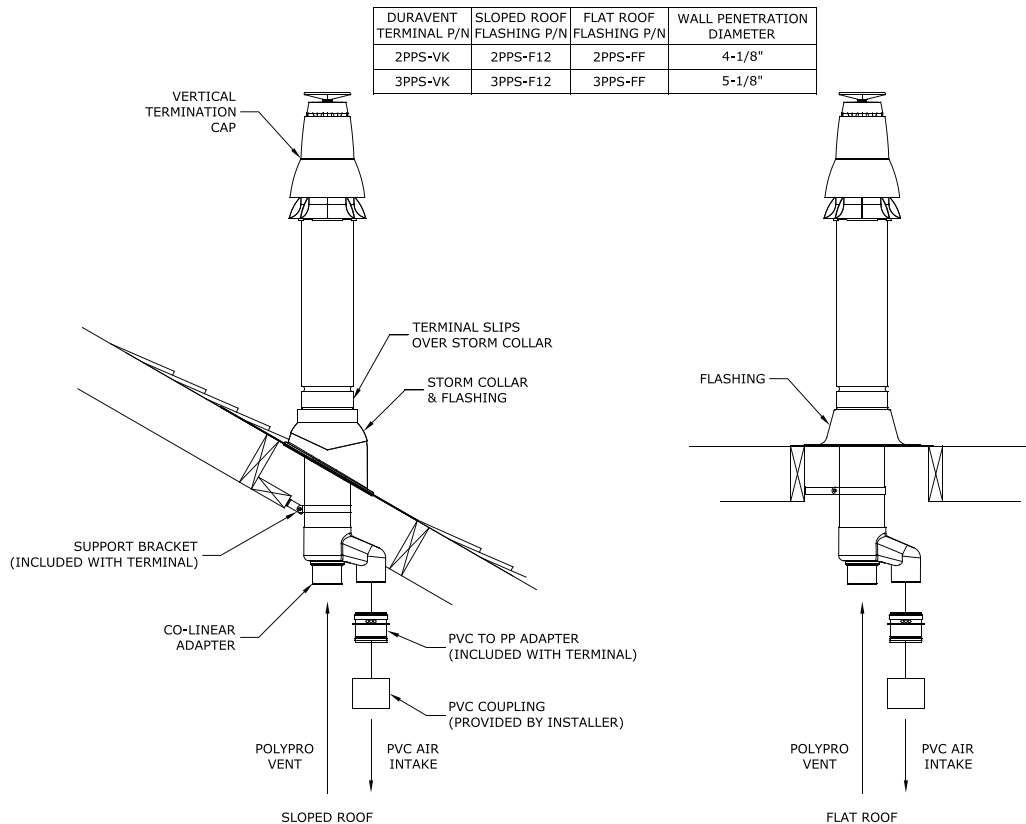

Figure 7.40: Installation of DuraVent PolyPro Concentric Terminal Through Roof
7. Vertical Installations using PolyPro Vertical Concentric Termination Kit #2PPS-VK or #3PPS-VK (Figure 7.40):
- Use a roof flashing and storm collar to prevent moisture from entering the building. See Figure 7.40 for the model number of the flashing to be used depending on the type of roof. Seal the roof flashing to the roof using generally accepted practice for the type of roof on the installation.